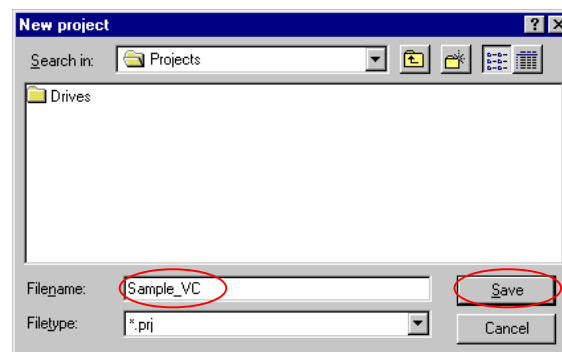

Fig. 5-9 Dialog box for creating a project
- ◆ After that, enter a project name that is not yet being used in field "Filename" in the following dialog box (Fig. 5-9) and save the project with button *Save*.